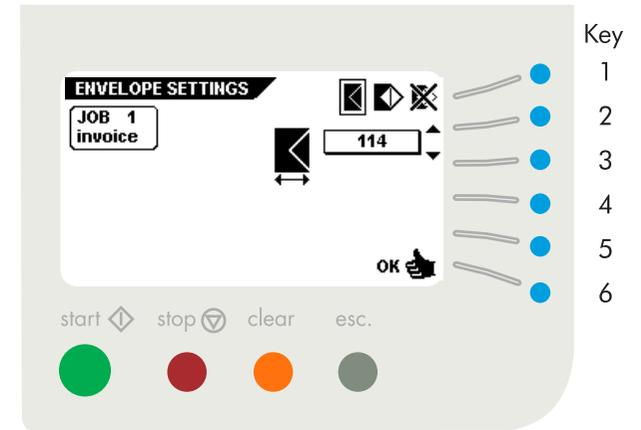

Fig. 36
- select the chosen settings menu to edit (key 3).
- go to the "job name" menu (key 5).
- save the job settings by pressing key 6 which will automatically get you back to the "job menu".
When the "envelope settings" menu is selected and key 3 is pressed in the "job settings" menu, the display shows the screen as shown in fig. 36. In this menu, the following choices are available by pressing key 1:
When "envelope with closed flap" is selected the display shows the screen as shown in fig. 36. The following choices are available: